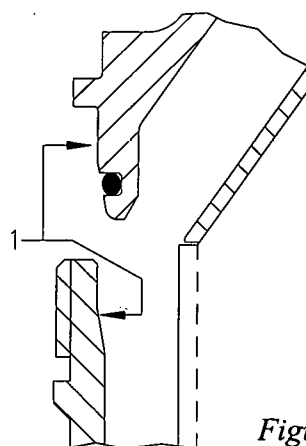

Figure 6.6
- 9) Carefully clean the conical coupling surfaces of bowl body and bowl hood (fig 6.6); then smear on them a thin film of antiscuff grease (alimentary type).